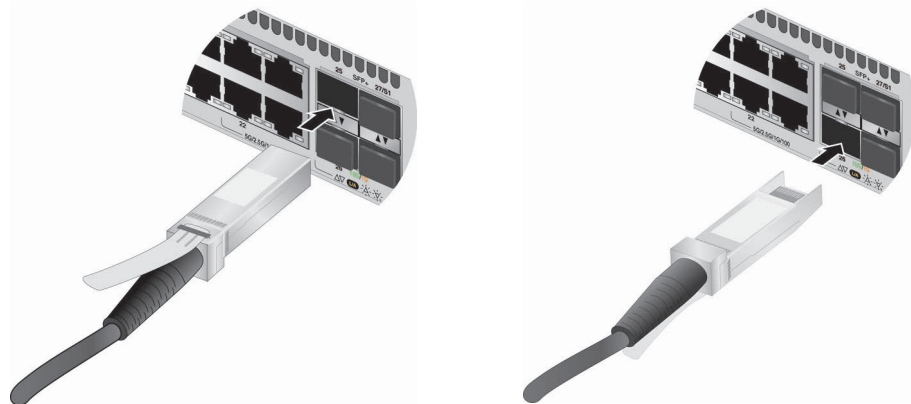

Figure 72. Installing SP10TW Cables
3. To install the transceiver in a port in the top row, position the transceiver with the Allied Telesis label facing up. To install the transceiver in a port in the bottom row, position the transceiver with the label facing down. Refer to Figure 72.